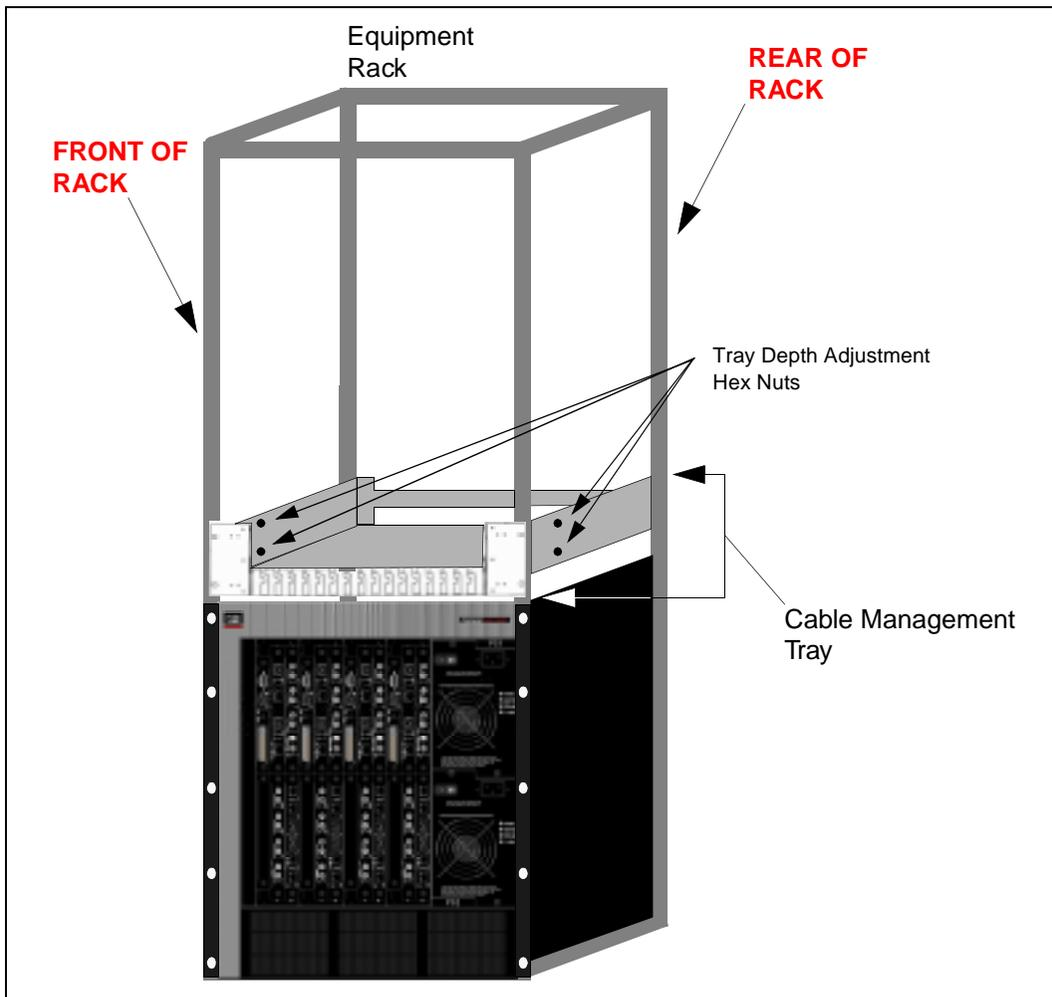

Figure 5 - Cable Management Tray in Equipment Rack
3. Once the mounting ears on the front and back of the tray are outside of the front and back vertical supports of the rack, rotate the tray to a level horizontal position (see Figure 5).